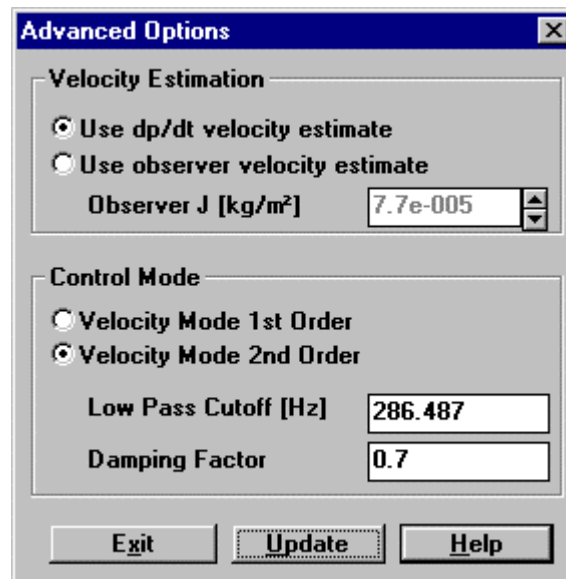

FIGURE 4.42 Advanced Options Dialog Box
In order to determine the velocity to a higher resolution follow the tuning steps below, which incorporate both the **Observer Velocity Estimate** and **Velocity Mode 2nd Order** filter in the *Advanced Options* dialog box (FIGURE 4.42).
- ❑ Select **Use observer velocity estimate** in the *Advanced Options* dialog box FIGURE 4.42.
- ❑ Select **Velocity Mode 2nd Order** in the *Advanced Options* dialog box FIGURE 4.42. Leave the default settings in the Low Pass Cutoff and Damping Filter parameter windows.